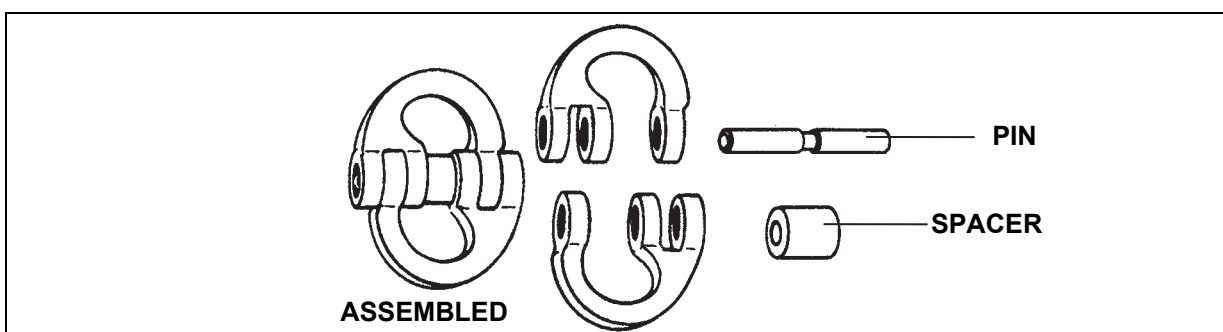

Figure 6-20. Coupling Link
- **Removing and Reinstalling Coupling Links.** Removing and reinstalling the coupling link is a simple operation. Use a hammer and a small pin punch to remove the securing pin from the coupling link or hammer lock. A spring inside the spacer secures the pin. Drive out the pin. Reassemble the coupling link in reverse order of disassembly. Replace the coupling link if the spring does not secure the pin inside the spacer. Figure 6-20 shows the coupling link that is used to attach the chain leg to the grabhook.